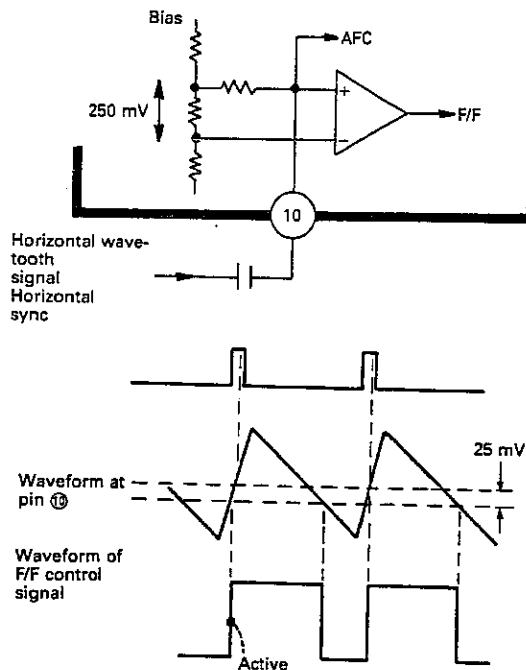

Figure 39.
The horizontal sawtooth signal available at pin ⑩ is applied to the comparator circuit where it is shaped in waveform to become a control pulse to drive the flip-flop circuit. The reference voltage of the comparator circuit is set at 250 mV lower than the average DC voltage of the horizontal sawtooth signal. To have a stabilized operation of the flip-flop circuit, it is desirable to keep the amplitude of pin ⑩ at more than 1 Vp-p. Fig. 39 illustrates the principle of what we have mentioned above.